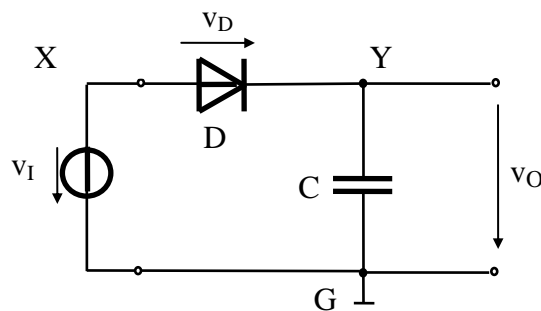

Fig. 1. Temporal maximum two-port
- How do the waveforms for $v_O(t)$ and $v_D(t)$ look like, in steady state, for the circuits shown in Fig. 1 and Fig. 2 if $v_I(t)=5$ V d.c. (Fig. 1) and $v_I(t)= -5$ V d.c. (Fig. 2)?
- How do the waveforms for $v_O(t)$ and $v_D(t)$ look like, in steady state, for the circuits shown in Fig. 1 and Fig. 2 if $v_I(t)$ is a sinusoidal voltage with 0.3 V amplitudes?
- How do the waveforms for $v_O(t)$ and $v_D(t)$ look like, in steady state, for the circuits shown in Fig. 1 and Fig. 2 if $v_I(t)$ is a sinusoidal voltage with 10 V amplitudes?
Build the circuit shown in Fig. 1.